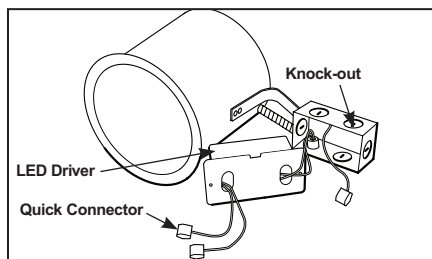

Figure 7
Step 2. Remove wiring box cover. Remove the appropriate knock-out(s) to accommodate the type of electrical service to be used/allowed by your local electrical code (Fig. 7):
Step 3. Strip supply wire 3/8" and insert each supply wire into appropriate connector. Connect black fixture wire to hot, white fixture wire to neutral and green fixture wire to ground. (Fig. 7).